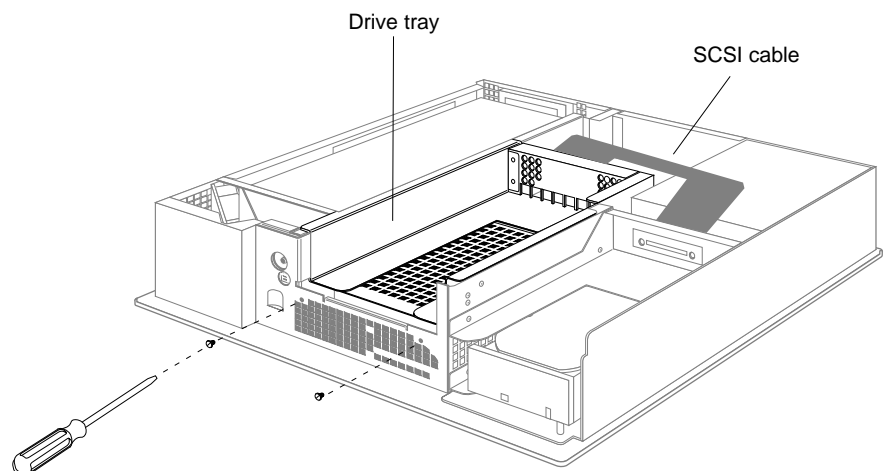

Figure 2-2 Removing the Screws on the 5-1/4" Drive Tray
3. Move the workstation, or position yourself so that you are facing the front of the workstation, as shown in Figure 2-2.
4. Remove the 5-1/4" drive tray and drive. Removing the drive tray makes it easier to remove the power supply and install the new one. If a drive is installed in the tray, you do not need to remove the drive from the tray. (Figure 2-2 shows only the drive tray.)